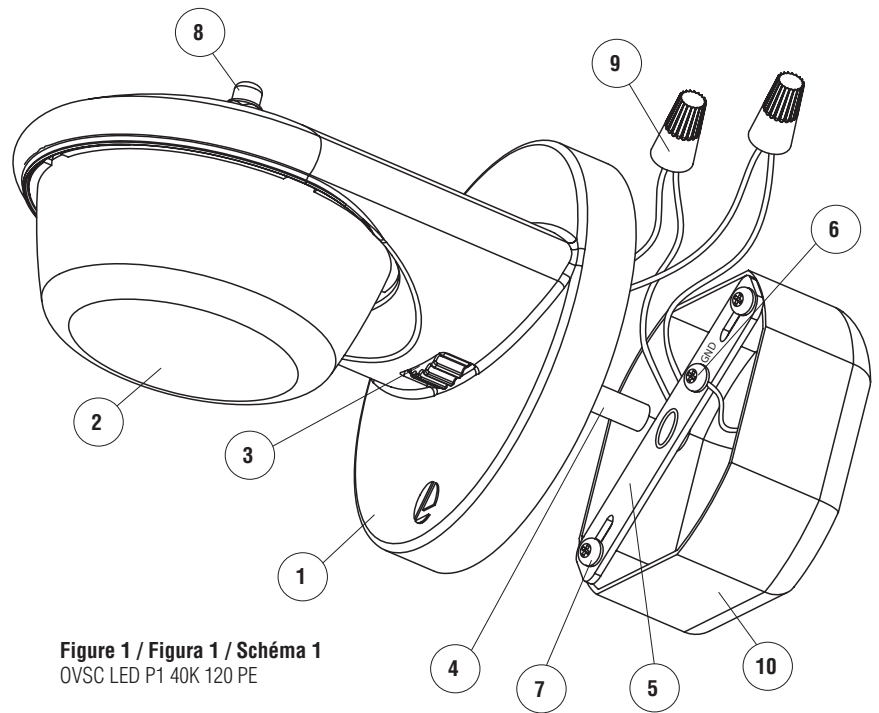

Figure 1 / Figura 1 / Schéma 1
3. Review installation diagram (see Figure 1).